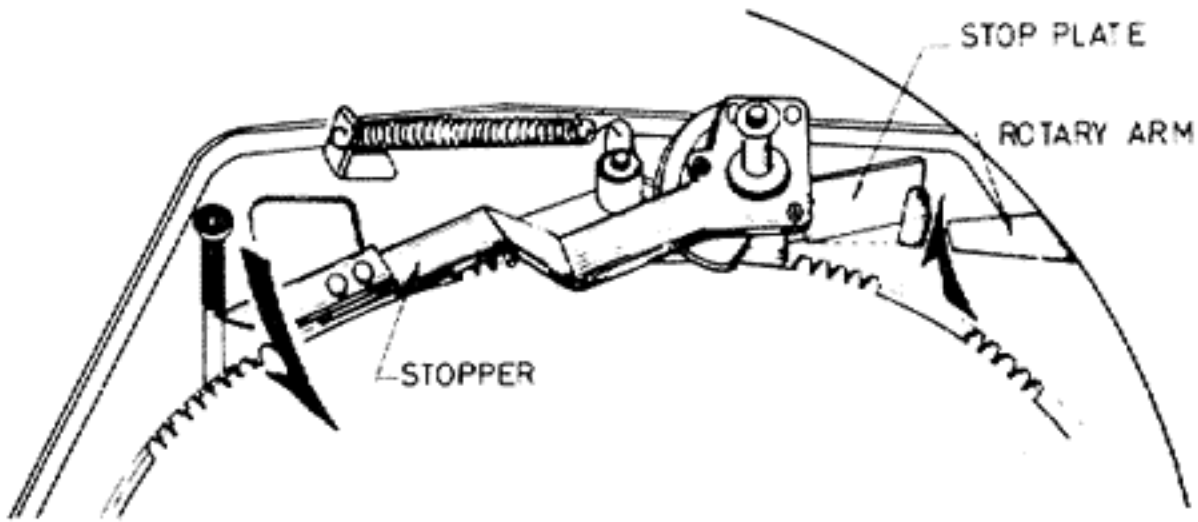

Fig. 7
- 1) At the moment when the disc has been played back to the end, the pick-up goes into the inside turn of the sound groove. At that time the rotating arm pushes the stop plate to push the stopper away from the position shown by the dotted line. (Fig. 7)